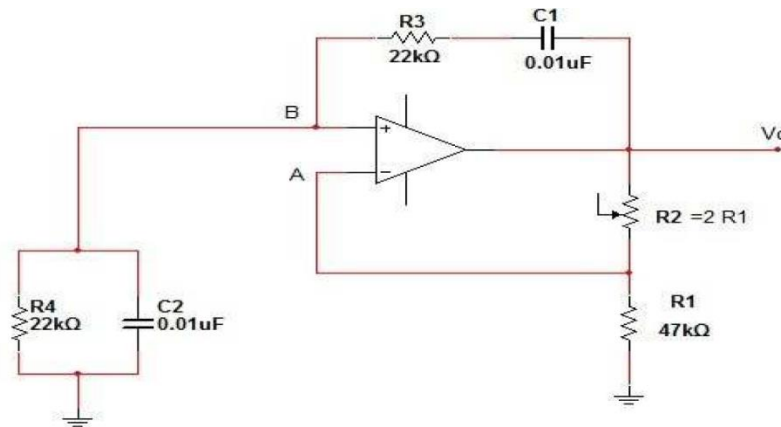

Figure 3.1
- a) Connect the circuit as shown in figure 3.1.